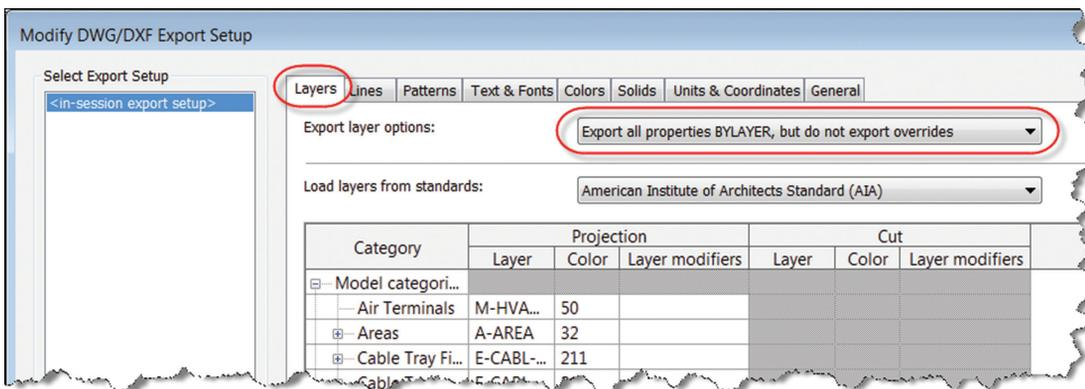

Figure 3
- Layers: you have the ability to modify and export objects to whatever layers you need or export to consistent layers for certain discipline specific components. To do this, modify the layer settings in the export options so that they may appear as consistent colors. Also make sure to not create any overrides (Figure 3).